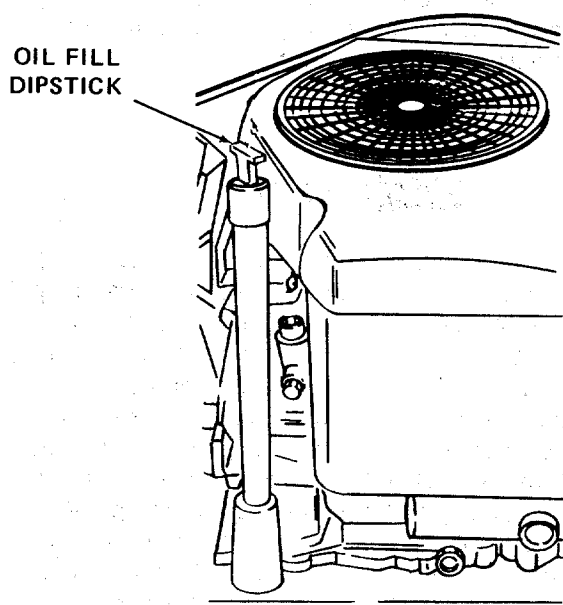

Figure 12
1. Check oil level. The oil fill and dipstick are located on the right rear side of the engine. (Refer to Figure 12.)